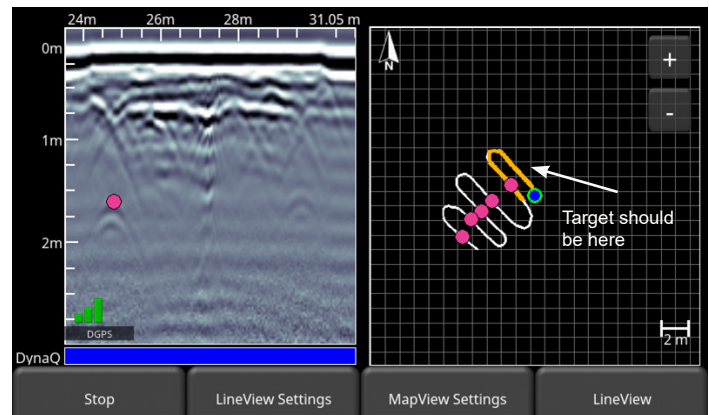

Figure 2: With multiple linear interpretations, you can predict where the next target will be (even if it is weak or not visible).
2. Predicting where a target might be – most utility locators snake back and forth with the LMX200® and mark out targets as they cross them. By placing interpretations on the screen, you can see the linearity of buried targets. But what if an object doesn't show up where it's expected to be? You can keep on surveying and see if the target shows up on the next pass. Knowing that it is linear, you can extrapolate where the target is, even if it doesn't show up on the screen. A missed target is usually caused by changing ground conditions that attenuated the GPR signal at one location. The five pink dots in Figure 2 indicate the linearity of a target that is not clearly seen in the last crossing of the target.